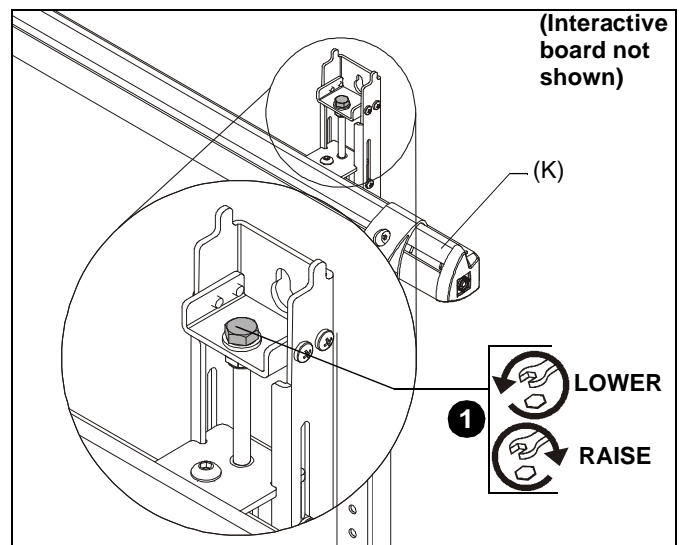

Figure 9
1. The wall assembly (K) can be adjusted or leveled by turning the hex head bolt in the brackets. (See Figure 9)